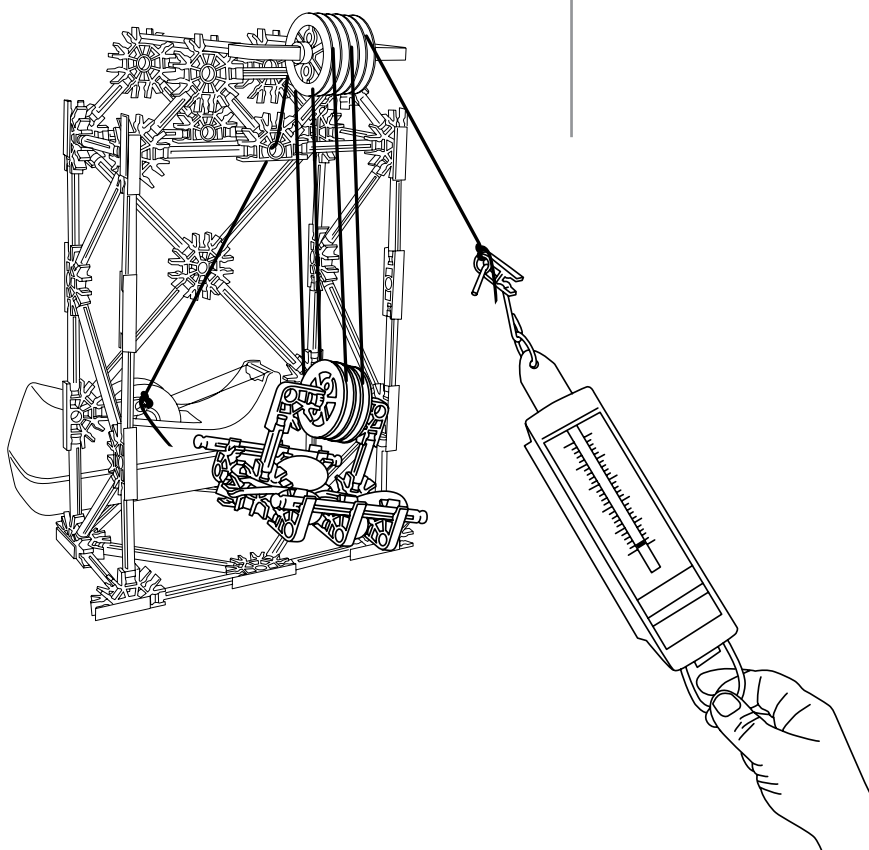

Fig. 5
6. Re-string your model so that all 3 fixed pulleys and both movable pulleys are used. (See Fig. 5)